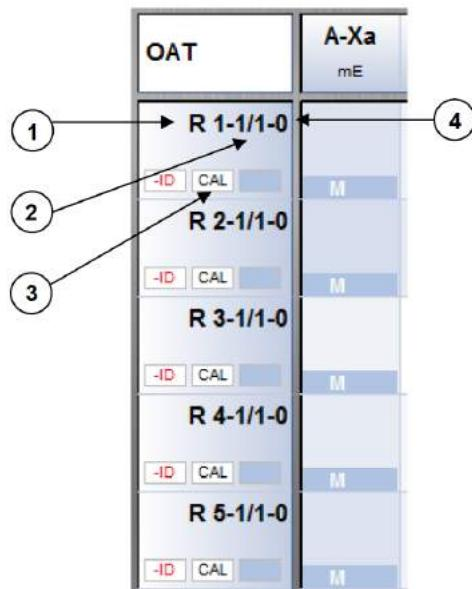

Figure 10.2. Independent Calibrators Order in the Worksheet
- Press **Accept** to confirm the order of the Calibration Curve. The orders of the different Independent Calibrators are automatically loaded in the **Worksheet** (Figure 10.2).